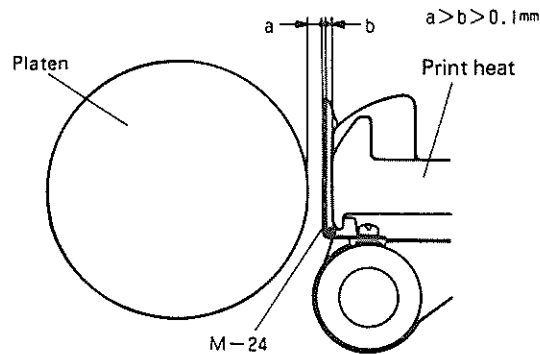

Fig. 4-32. Ribbon Mask Position (A)
- Step 3: Establish positioned relationship between the ribbon mask, print head and platen as shown in Fig. 4-32 (Reference value, $a > b > 0.1$ mm).